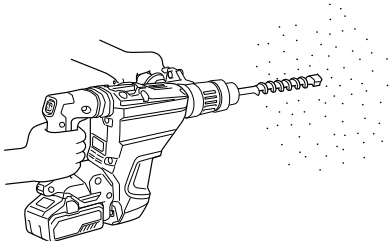

Fig. 20
1. How to drill holes (Fig. 20)